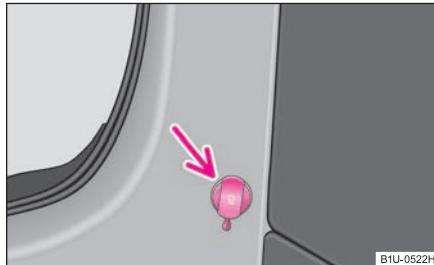

Fig. 87 Luggage compartment: Power socket
- Open the cover of the power socket \Rightarrow fig. 87.